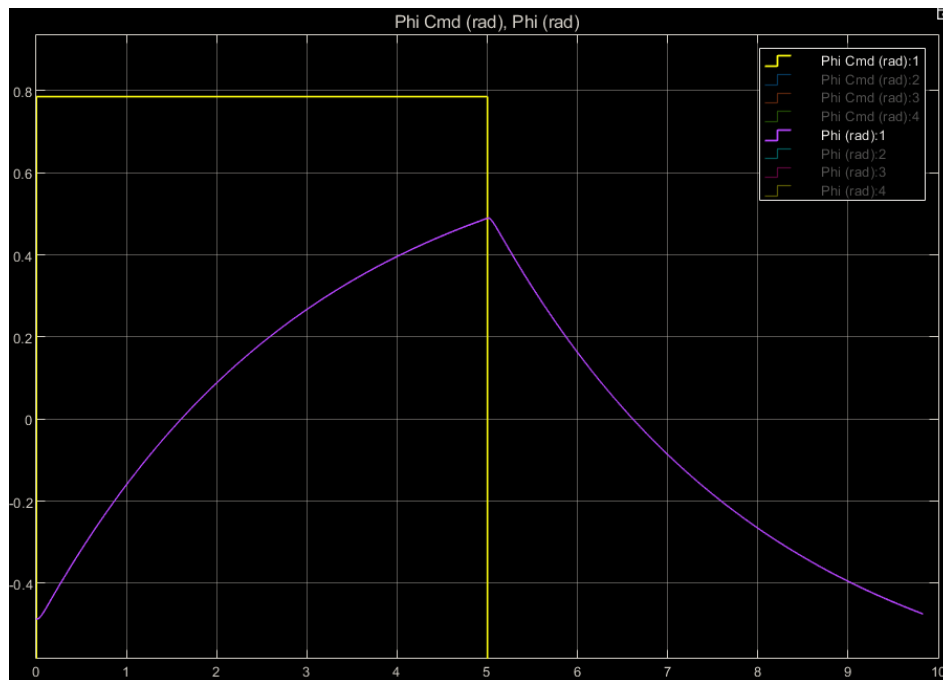

Figure 2.3 Plot of QArm response to pulse input with proportional gain of $[0.1 \ 0.1 \ 0.1 \ 0.1]$
- Keep the proportional gain matrix K_p at $[0.1 \ 0.1 \ 0.1 \ 0.1]$ (it is a 1×4 , one gain for each joint). To apply a pulse signal to a joint you will need to toggle one of the switches in the Exploration Box to be 'ON'. Start by toggling the Base joint. Set the gain block after the Base signal generator to 1 and leave the bias block set to zero for now. The pulse input applied to the arm oscillates between $\frac{\pi}{4}$ and $-\frac{\pi}{4}$ (+45 and -45 degrees). You can use the Controller Performance scope to monitor the arm's response, and you will also be able to see the physical arm responds. You can turn **off** all plotted lines **apart from** 'Phi Cmd (rad) 1' and 'Phi (rad) 1' by clicking each coloured line and you should see the response shown in Figure 2.3.